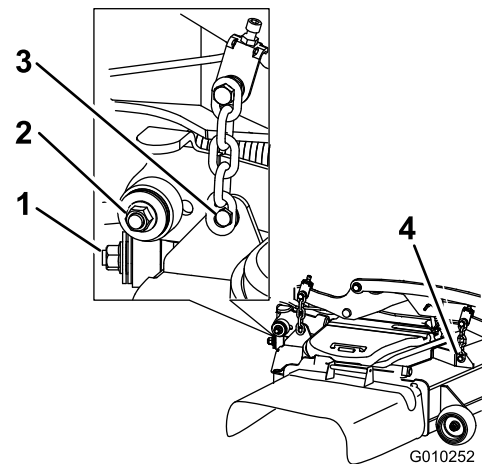

Figure 99
7. Remove and retain the hardware on both sides of the deck (Figure 99).